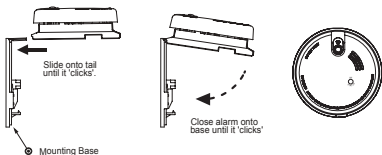

Figure 5
- Connect the alarm to the base tail first, and then swing the alarm closed onto the base until a “click” is heard. (See Figure 5)